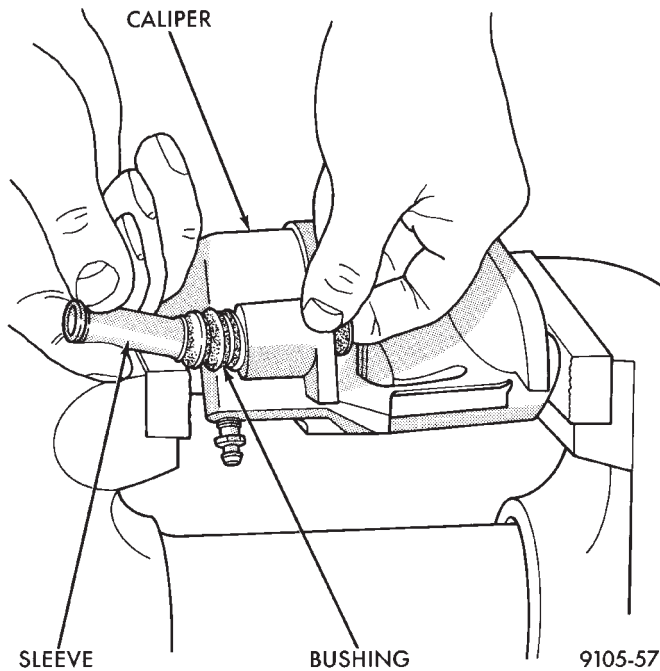

Fig. 175 Removing Sleeve From Bushing
(1) With one hand, push the guide pin bushing sleeve towards the back of the caliper, and at the same time, pull the sleeve out the back of the caliper and bushing (Fig. 175).